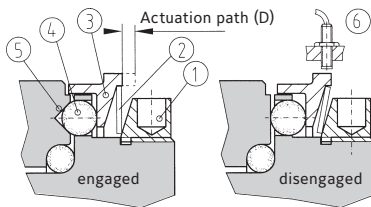

Figure 1
R+W torque limiting couplings are ball detent style overload couplings. They protect drive and driven mechanical components from damage associated with torque overloads. Backlash free torque transmission is accomplished by a series of steel balls (4) nested in hardened detents (5). See figure 1. Disc springs push against an actuation ring (3) keeping the balls nested. The